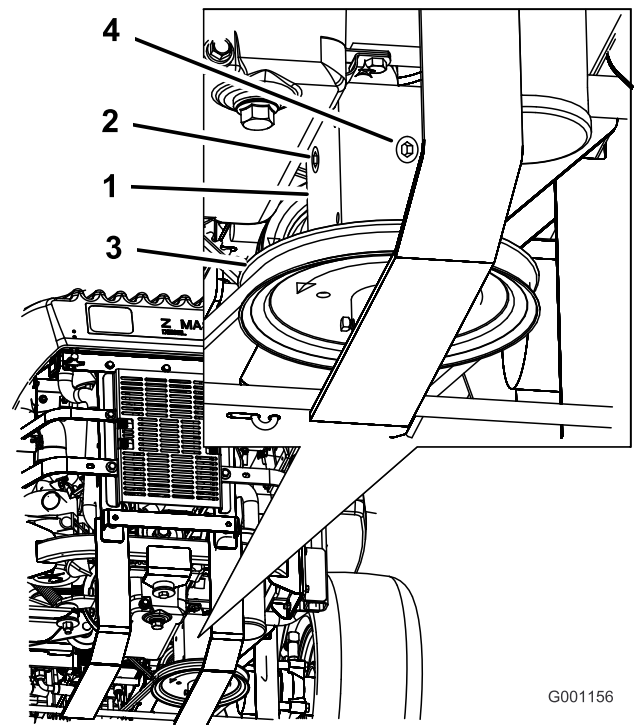

Figure 64
3. Remove the side or rear plug on the gearbox (Figure 64).